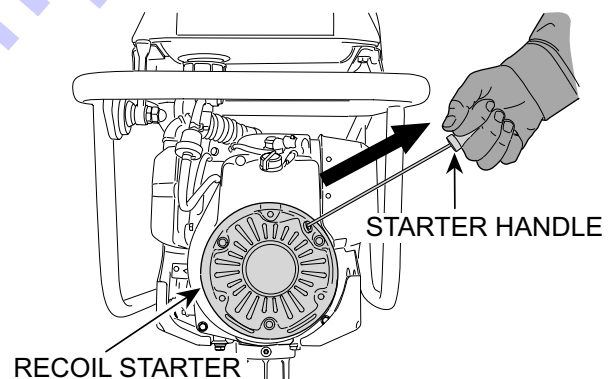

Figure 14. Recoil Starter
5. Grip the recoil starter (Figure 14) handle and pull it until you feel a slight resistance. Then pull sharply and quickly. Return the recoil starter handle to the starter position before releasing.